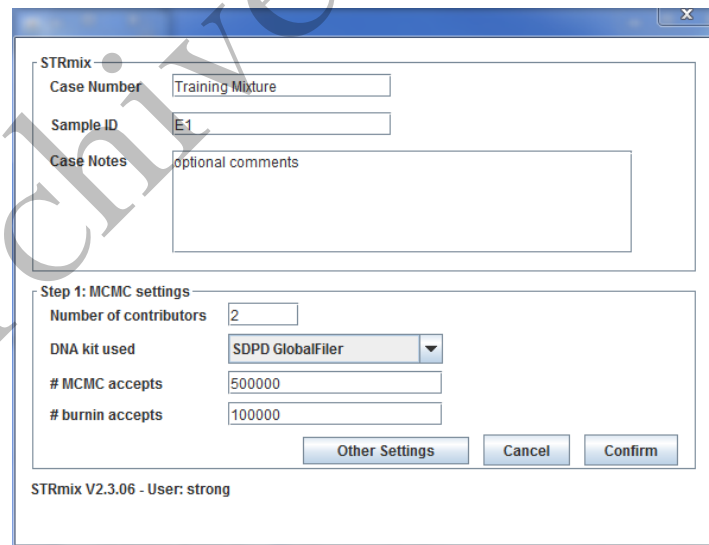

FIGURE 2
1. Select Start Mixture Analysis to open the Sample Summary window (see Figure 2). This initiates a three-step process for the interpretation of single source and mixed DNA profiles.
3. The window in Figure 2 will open, but analysis settings will be unavailable for change. Fill in the Case Number, Sample ID, and any case notes (optional). The sample ID box should be altered to contain the initials for the reference sample to be compared (e.g., XXXXXXXX LR Ref XX). Any loci to be ignored can be set in Others Settings. Select confirm.